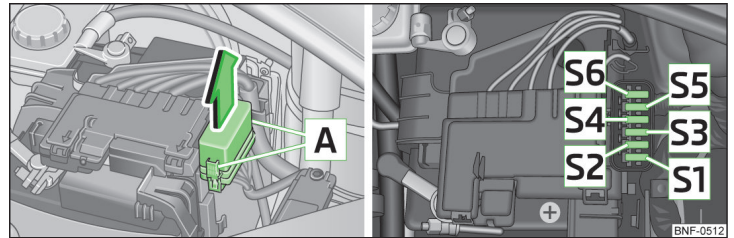

Fig. 125 Distribution board cover/fuses
The fuses are located underneath a cover next to the vehicle battery » Fig. 125.
- Press the locking keys of cover **A** » Fig. 125 together simultaneously.